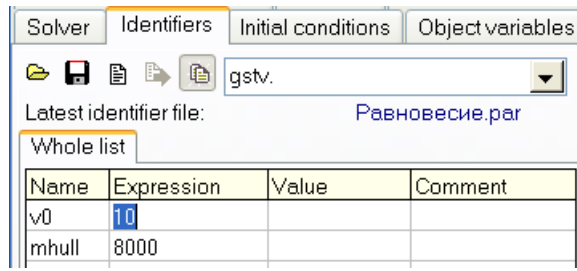

Fig. 61 TV speed
- 4) Set 10 m/s speed of the TV on the **Identifiers** tab of the inspector, Fig. 61.